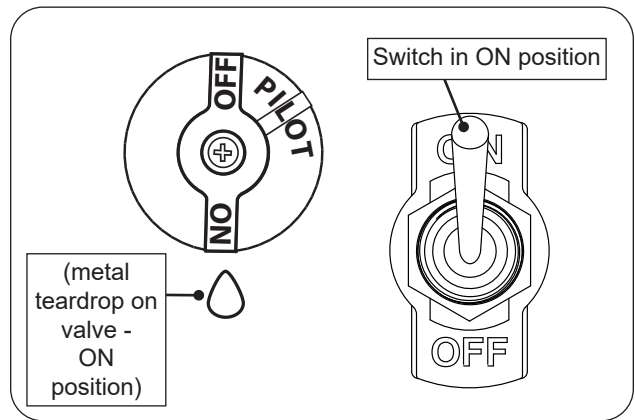

Fig. 39-1 Manual lighting
1. Ensure the pilot is burning. Turn the control knob counterclockwise ↶ to **ON** (see Fig. 39-1).
2. Flip the toggle switch to **ON** to ignite the burner (see Fig. 39-1).